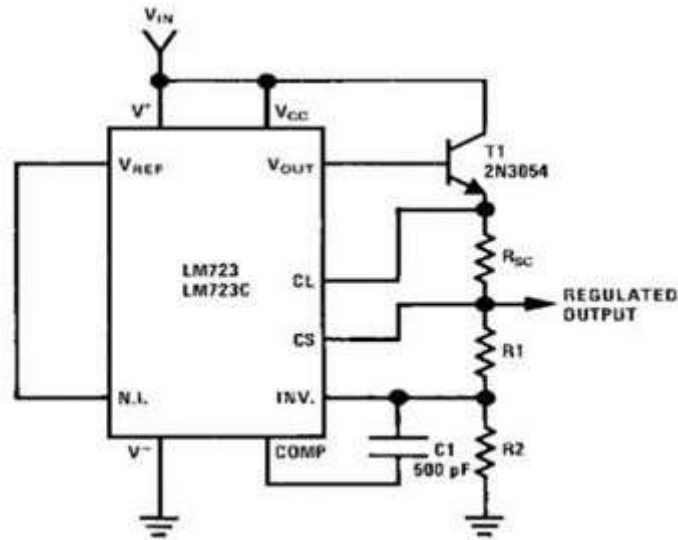

Figure 5.6.4. Circuit connection of IC 723 as a High voltage High current regulator
- An external transistor Q is added in the circuit for high voltage low current regulator to improve its current sourcing capacity. Circuit connection of IC 723 as a High voltage High current regulator is shown in figure 5.6.4. below